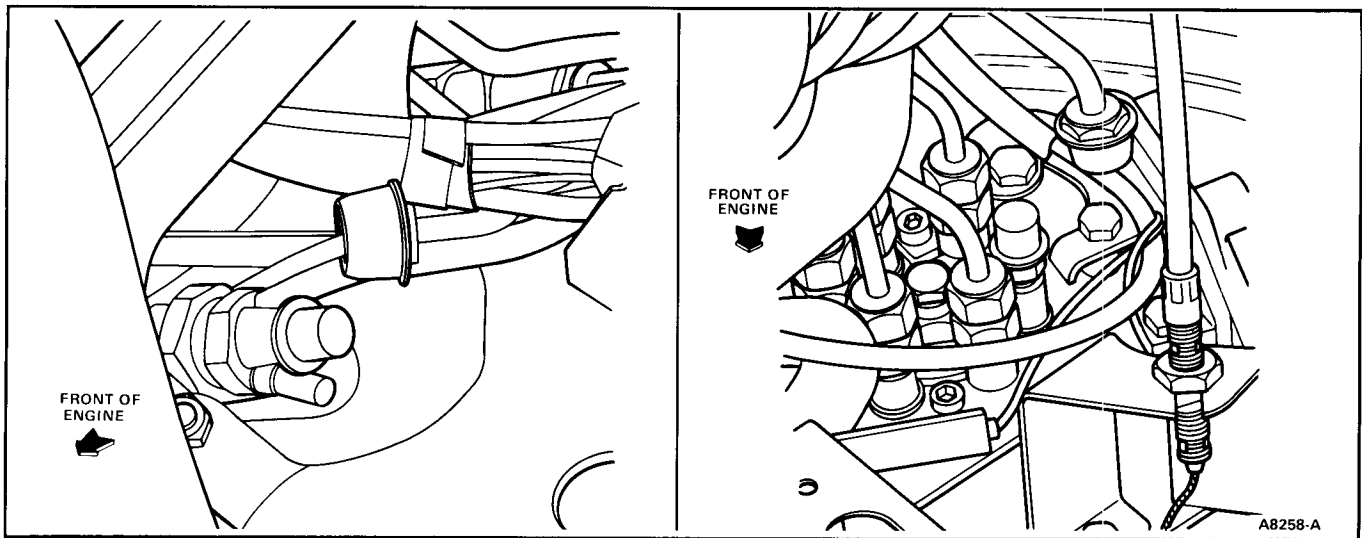

FIG. 24 Cap Fuel Injection Lines
- CAUTION: Cap nozzles and lines using Tool T84P-9395-B, or equivalent (Fig. 24).**